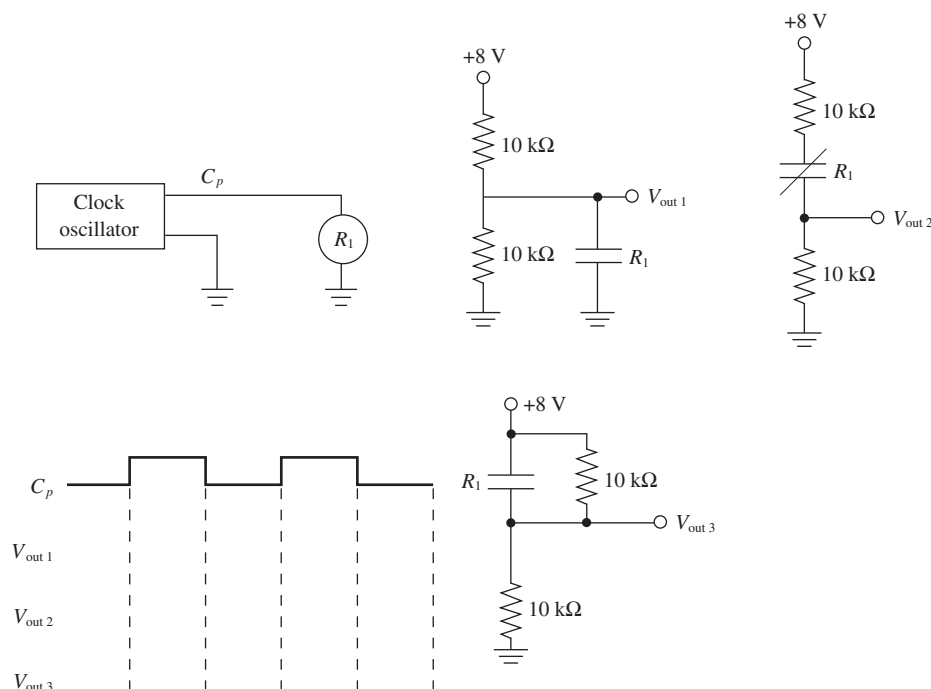

Figure P5
- C 5. Draw the timing diagram for V_{out1} , V_{out2} , and V_{out3} in Figure P5.